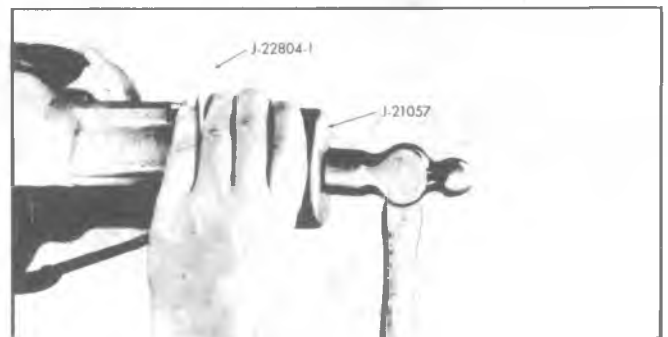

Fig. 27—Drive Pinion Flange Oil Seal Installation (Heavy Duty)
11. Using Tools J-21468 and J-9458 for light-duty axle (fig. 26) and Tool J-21057 for heavy-duty axle (fig. 27) press and seal into carrier bore until gauge plate is flush with the carrier shoulder and seal flange. Turn gauge plate 180° from installed position; seal must be square in carrier bore to seal properly against pinion flange.